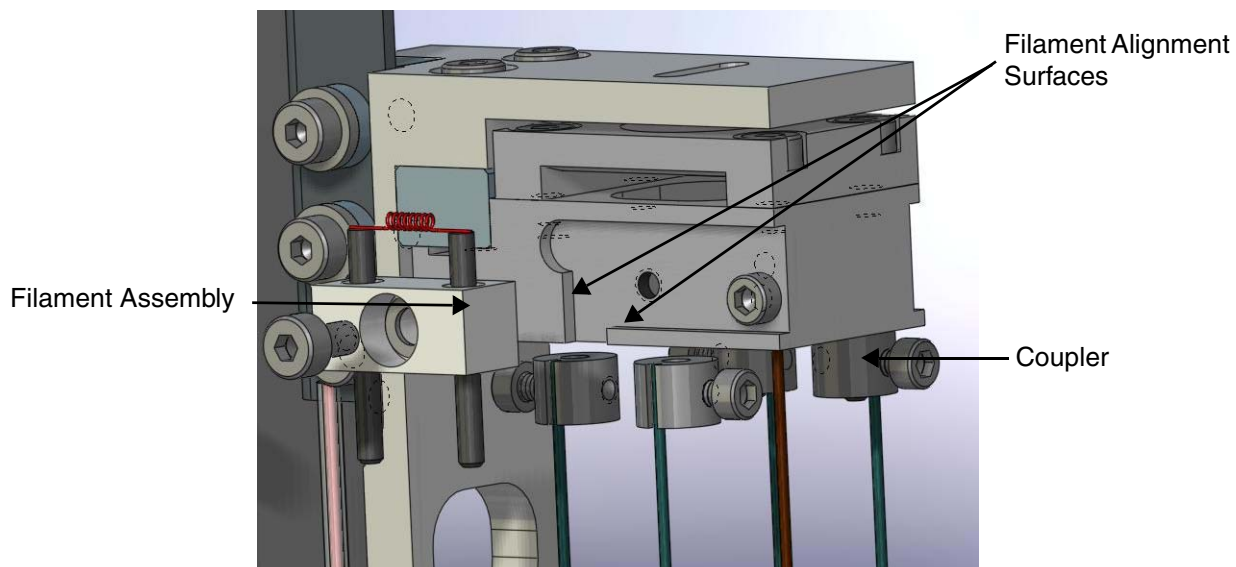
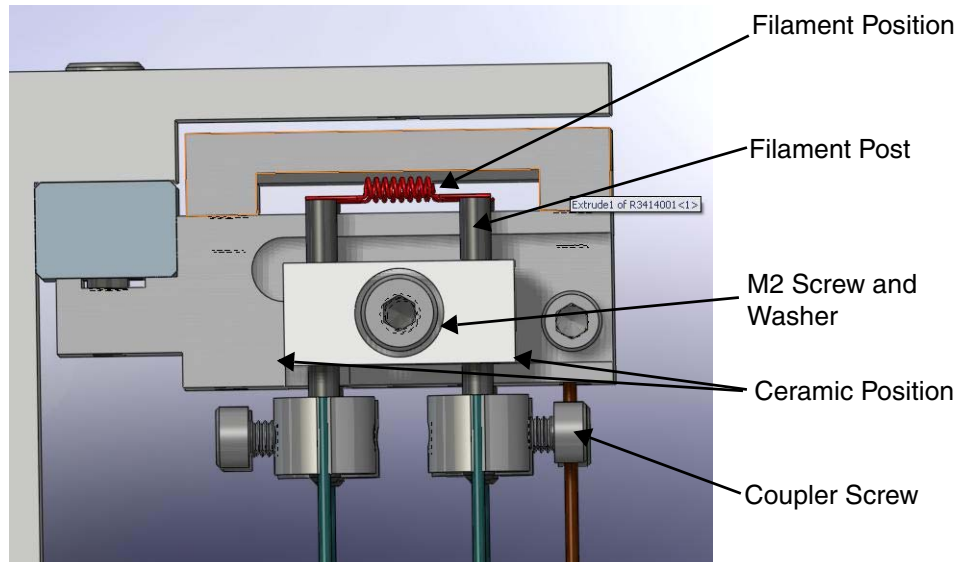
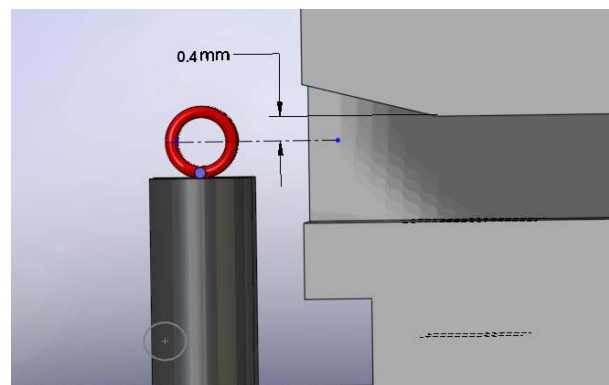

Figure B-84 Coupler and Filament Assembly
Figure B-85 Filament Position
Figure B-86 Filament Alignment
14. Guide the ceramic against the bottom and side surfaces of the ion chamber (Figure B-84 and Figure B-85). Correct positioning of filament is critical for proper spectrometer operation.
15. While holding the filament in position, insert the M2 screw and washer and tighten (Figure B-85).
16. Tighten the coupler screws onto the filament posts (Figure B-85).
17. Visually verify ceramic is tight against the bottom and right side ribs. Ensure that the filament is positioned in the slot of the ion source as shown (Figure B-85 and Figure B-86).